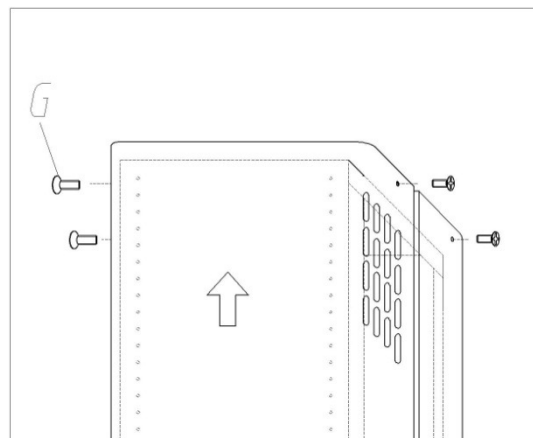

Fig.7
- Take the upper chimney piece and fix it with 4 unit screws **G**. (Fig.7)